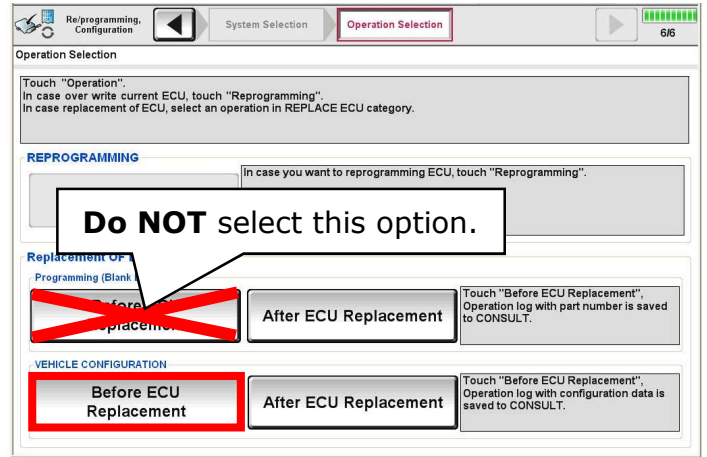

Figure 12
13. Select **Before ECU Replacement** in the Vehicle Configuration section. (Figure 12)